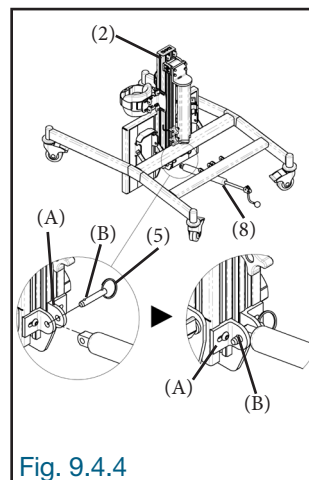

Fig. 9.4.4
9.4.4 Attach the cylinder (8) to the support (A) of the frame (2) by inserting the quick-release pin (5) (Fig. 9.4.4). Make sure that the lock (B) on the pin is completely disengaged on the other side of the support (A) so that it is securely locked.